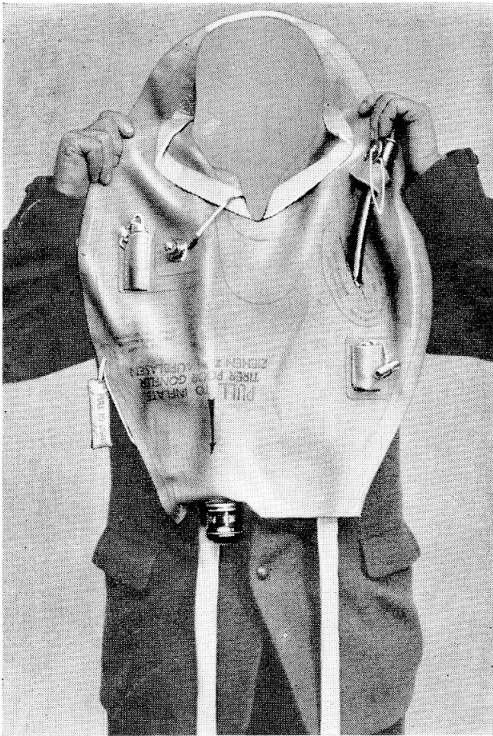
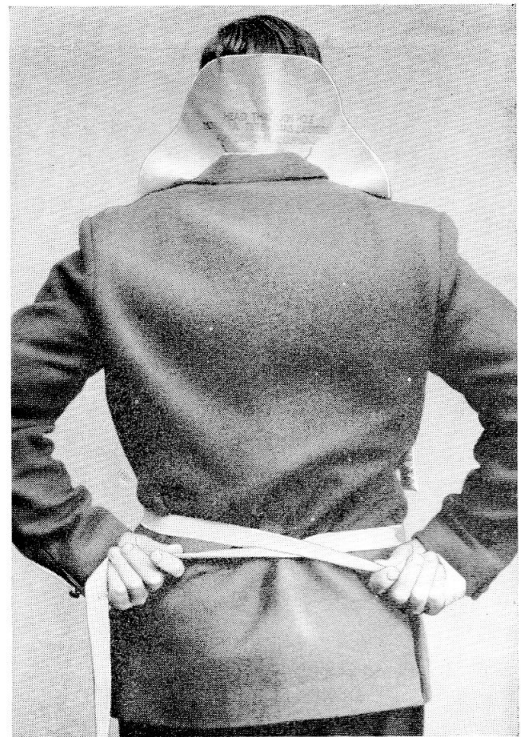

Fig. 4. Donning—passing the head through the aperture
Fig. 5. Donning—crossing the tapes at the back
6. The life jacket is removed from its pack by unfastening the press studs holding the flap and then lifting it out. The head is placed through the aperture in the jacket with the lamp, whistle and oral inflation tube facing away from the wearer (*fig. 4*). The tapes are crossed behind the body (*fig. 5*), brought round to the front and tied underneath the bottom of the jacket (*fig. 6 and 7*). Inflation takes place as soon as the operating head is pulled downwards. *Fig. 7* shows a wearer prepared to pull the head and inflate the jacket. This should not be done until the wearer is clear of the aircraft.